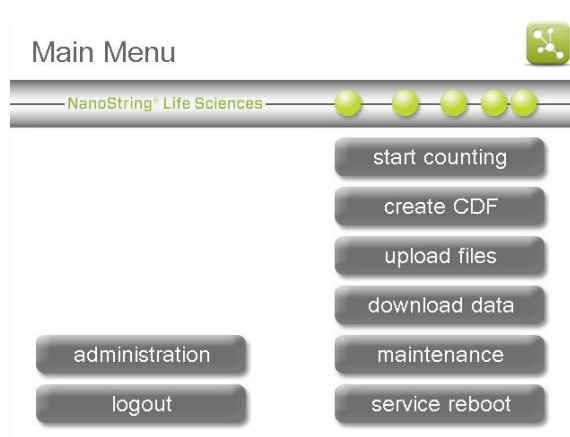

Figure 50: The Main Menu.
2. From the Main Menu, press upload files (**Figure 50**).